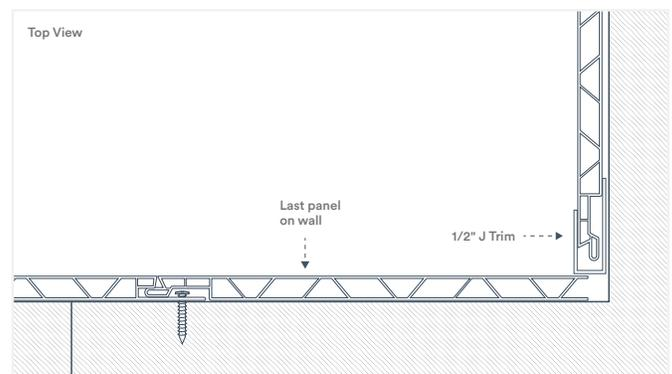

Fig. 16
11. When you reach the corner you first started with, insert the panel behind the trim piece where you left the 1/2" gap. Ensure to rip the panel to allow for adequate space to fully insert it behind the trim and then slide it back toward the groove on the previously installed panel pressing firmly together for a proper connection (Fig. 16).